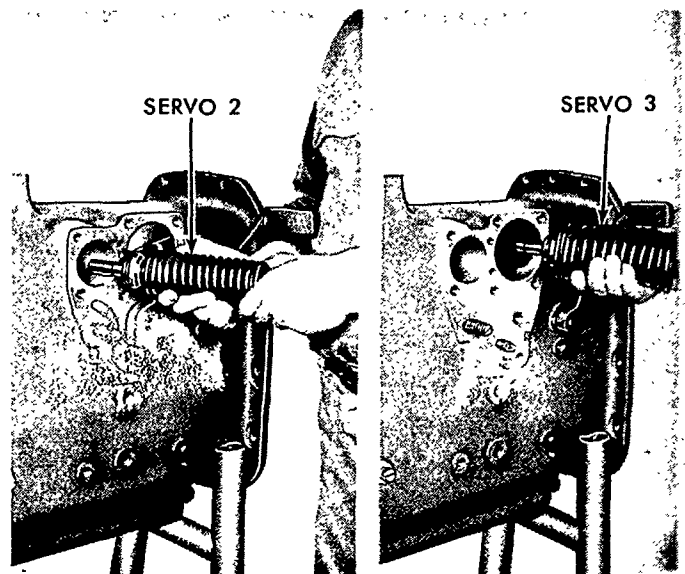

Figure 77
19. Remove the servo assemblies 2 and 3 from the transmission case as shown in Figure 77.
4. Install the servo rod guides and servo assemblies 2 and 3 in the case so that the ends of the servo rods contact the actuating levers. See Figure 77.